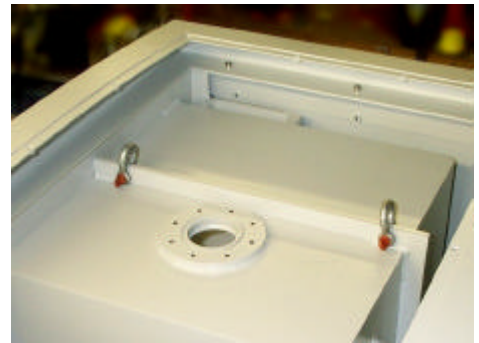

Fig. 4 Lifting Bolts in position.
- \* If required, the complete unit may be lifted by using the two supplied D-bolts connected to the vacuum chamber as shown in Fig.4 under the top cover plate.